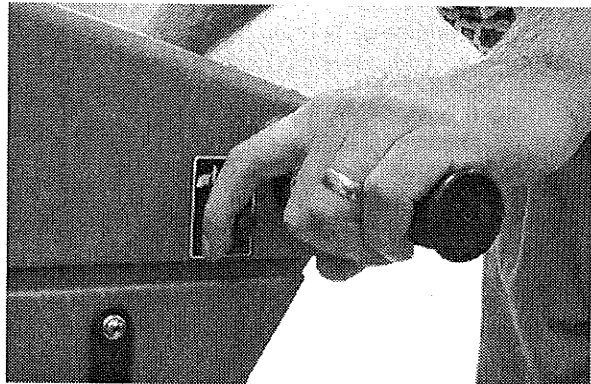

FIG. 15
- To operate machine in reverse, simply pull reverse trigger (Figure 15).